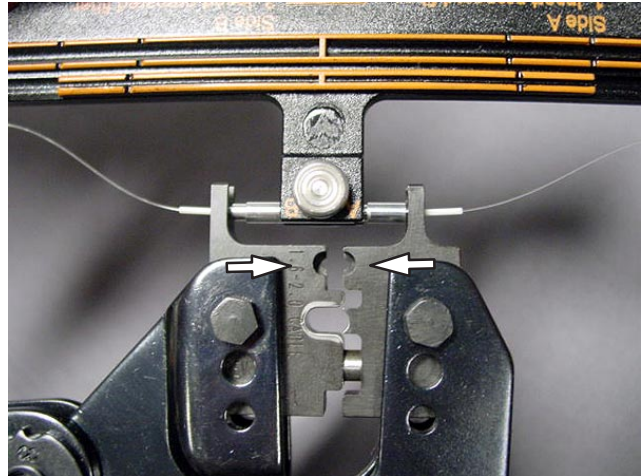

Figure 49
11. Insert the splice into the die set, slowly close the crimp tool handles until the ratchet releases. Slowly open the tool and remove the splice. See Figure 49.